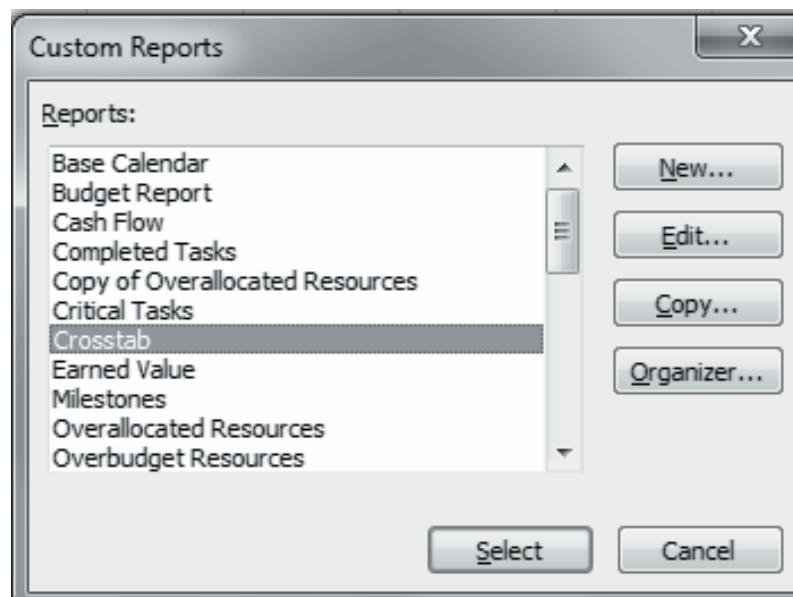

Figure 13.9: Selecting Crosstab Report in Custom Reports Dialog Box
3. Then, select **Crosstab** as shown in figure 13.9.